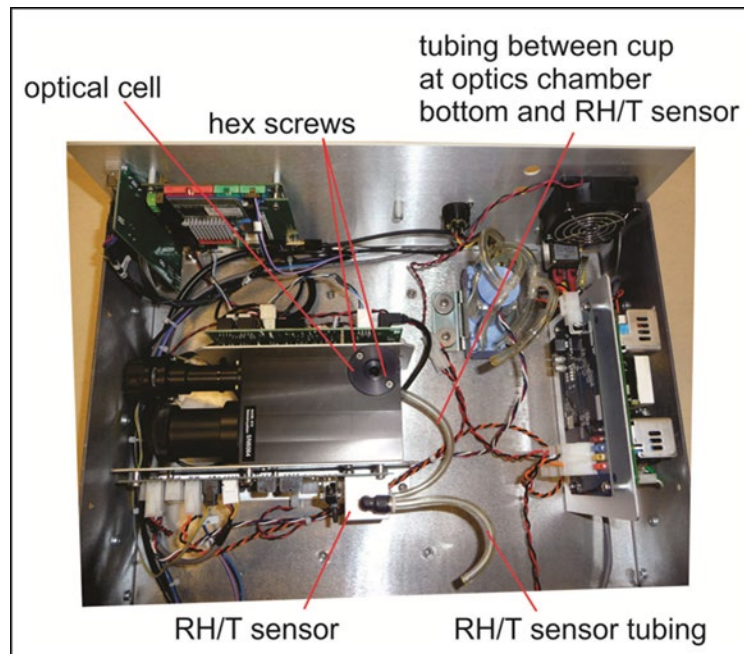

Figure 8. Maintenance: Location of Optics Chamber and RH/T Sensor
13. Locate the optical cell, the cup at the bottom of optics chamber and its tubing, and the Relative Humidity and Temperature (RH/T) sensor (Figure 8).